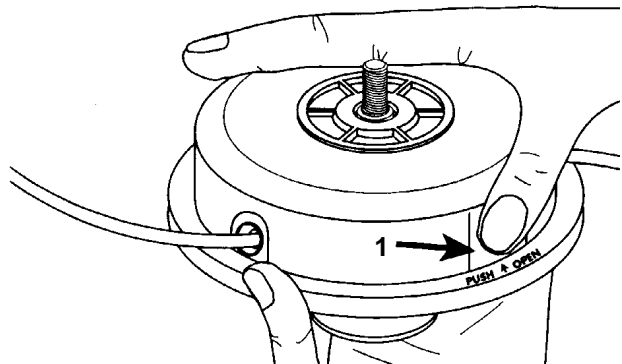

Figure 17
1. Push in on one side of the head where it says to "push open" then pull on bottom (Figs. 17).